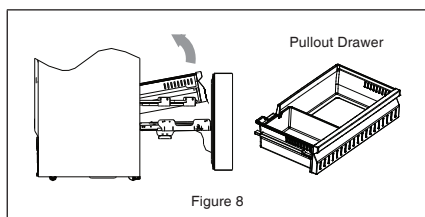

Figure 8
3. Pull the slide rails all the way out, and push the pullout drawer forward until the drawer is separated from the support claws on the slide rails. See Figure 8.